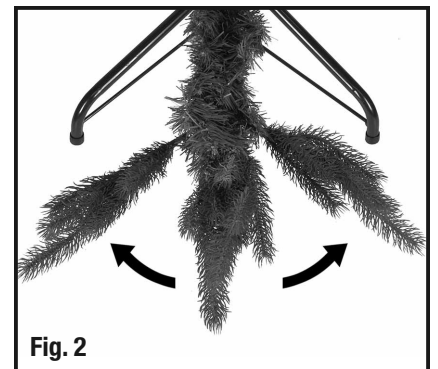

Fig. 2
2. Starting with the bottom row of the tree bottom section, pull the two branch wing tips out away from center to about a 45° angle (Figure 2).